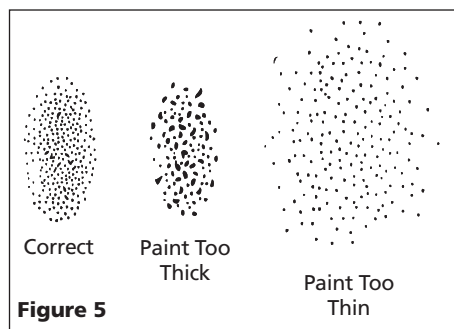

Figure 5
4. With gun 8 inches away from surface, trigger a short, one second burst while turning fluid control knob counterclockwise. Observe the spray pattern on the target and adjust the fluid control knob until the desired pattern (atomization) is obtained (See Figure 5).